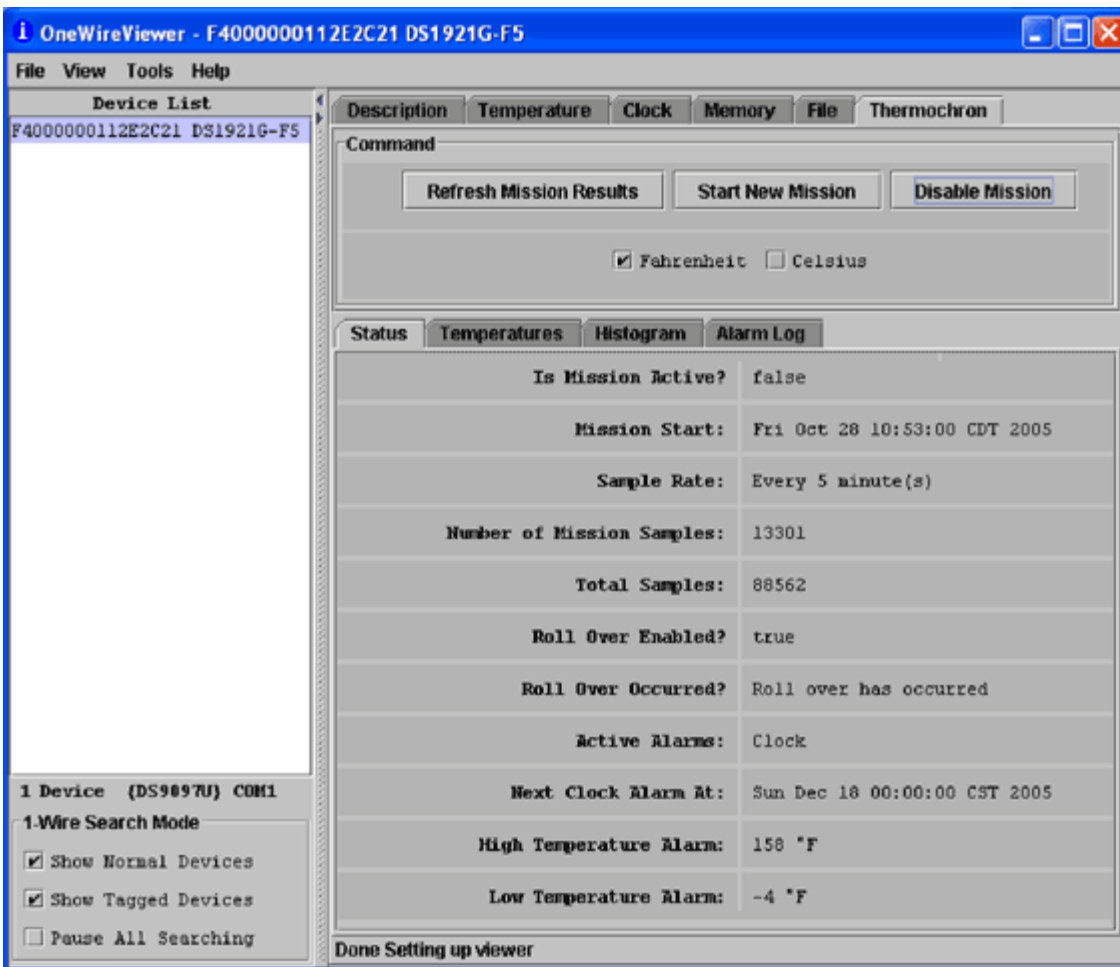
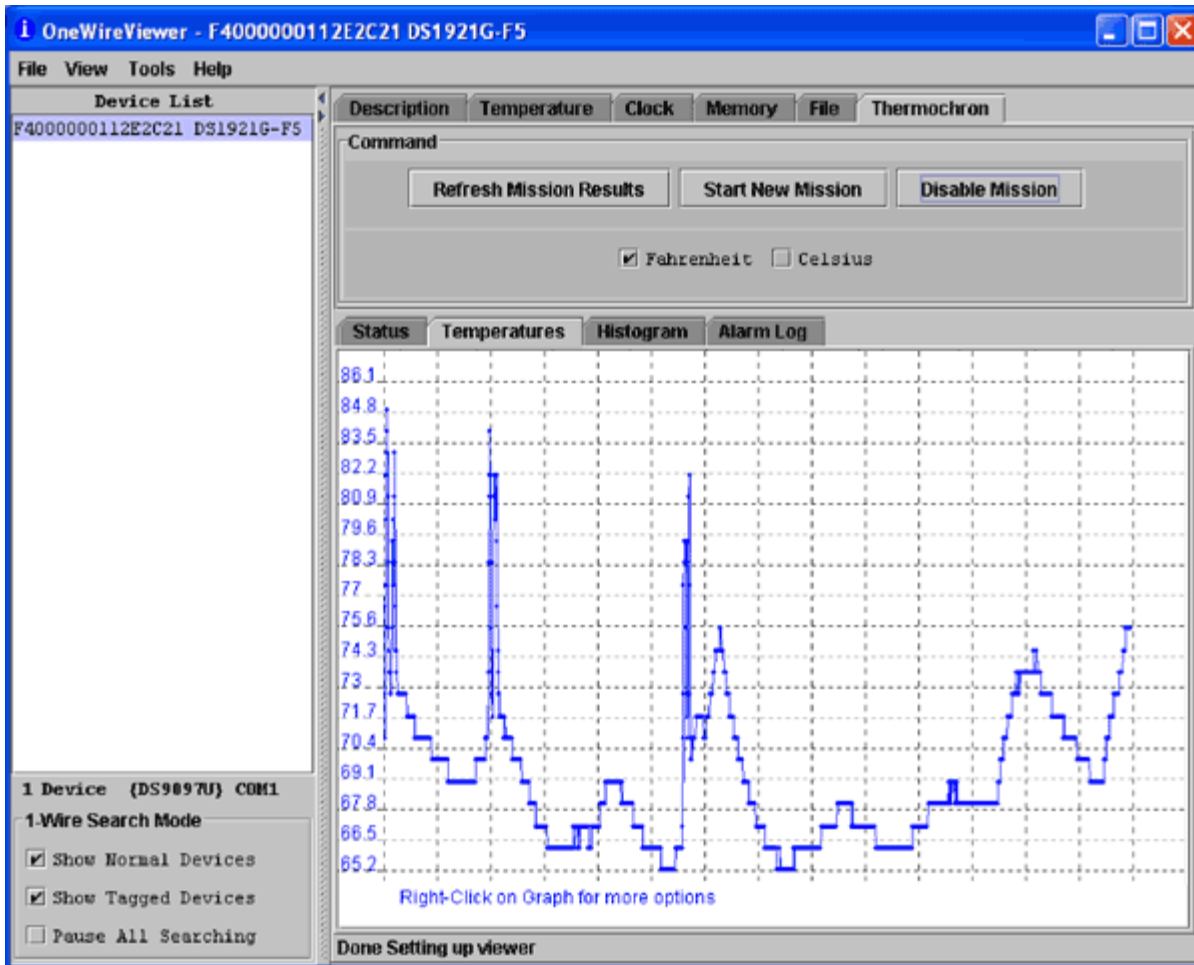

Figure 1. Thermochron viewer screen.
Figure 2. Thermochron temperature vs. time graph.
3. Select the correct ROM ID number from the device list (Figure 1).
4. For the DS1921G, open the Thermochron subviewer by clicking on the Thermochron tab. For the other data loggers, this screen does not have a Thermochron tab. Instead, open the Mission subviewer by clicking on the Mission tab (not shown in Figure 1).
7. On the screen in Figure 1, notice that there are two rows of tabs, an upper row and a lower row. Select the lower "Temperatures" tab. This displays graphically the Thermochron log of temperature vs. time (Figure 2).